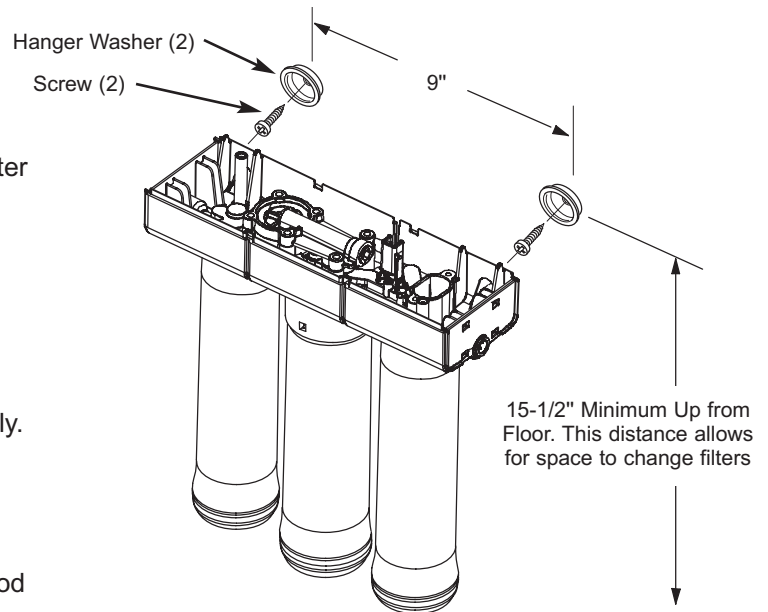

FIG. 11
See Fig 11. The hanger washers allow you to lift the filter assembly from the washers without any hardware removal. When planning your installation, you need to leave room for changing filters.
See Fig 11.
3. Hold the assembly up to the wall surface and mark locations for the hanger washers. See Fig 11. This allows room to change filters.